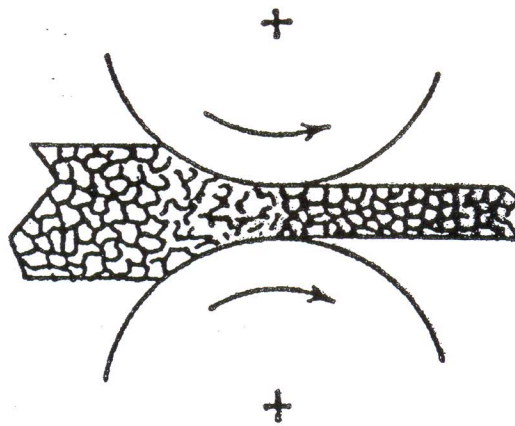

Figure 1: Hot-Rolling Steel
- (a) There are several types of properties of the metals. State five (5) properties of metals and explain their definitions briefly. (10 marks)
- (b) According to Figure 1 (Hot-Rolling Steel), explain briefly the effects of hot rolling operation.